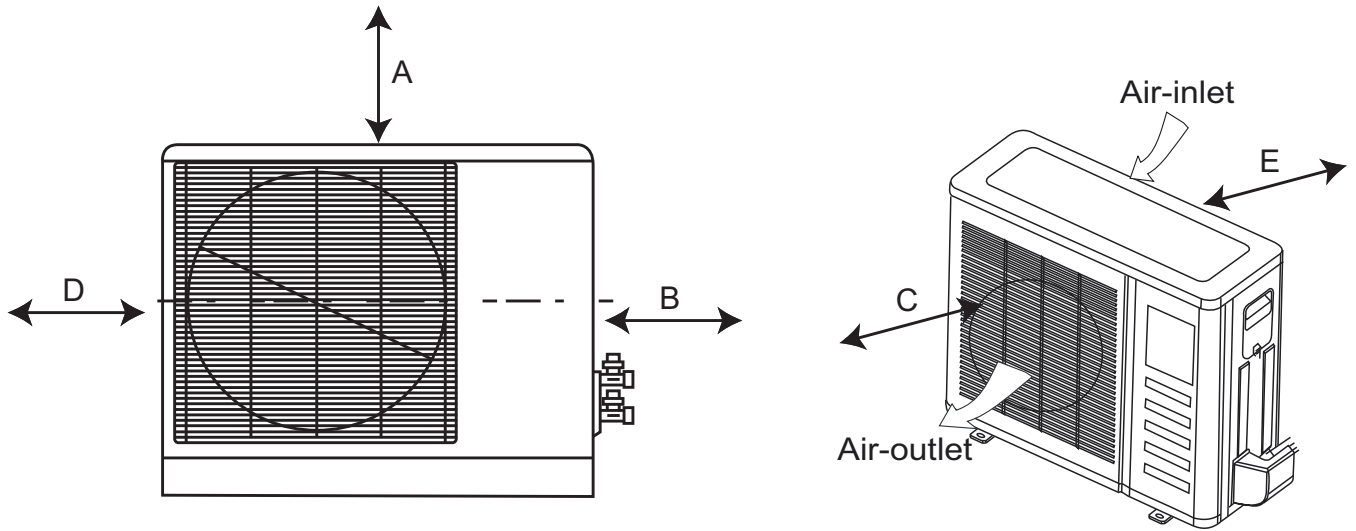

Fig. 4 – Outdoor Unit Clearance
Allow sufficient space for airflow and service of the unit. See Fig. 4 for the required minimum distances between the unit, walls or ceilings.
- A location which provides appropriate clearances (see Fig. 4).